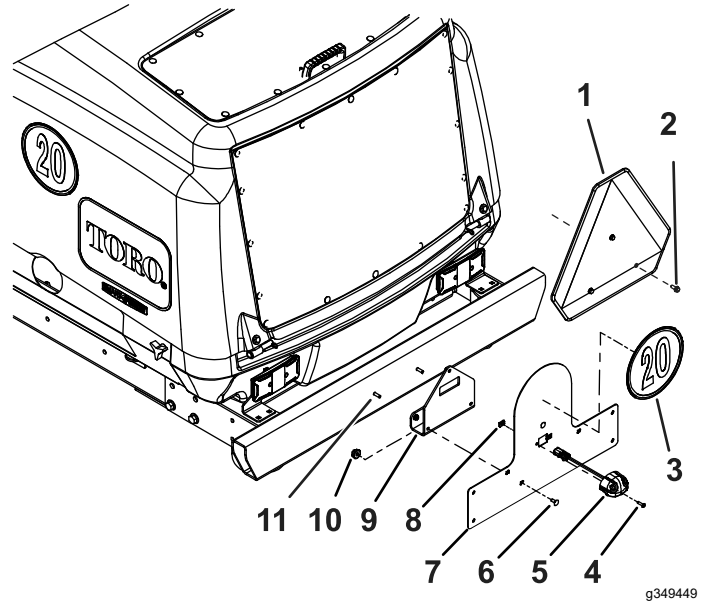

Figure 9
2. Remove the existing warning sign and the mount tube from the rear bumper (Figure 9).
4. Use the hardware to install the sign mount to the bumper (Figure 9).
9. Adhere a sign to the license bracket (Figure 9).